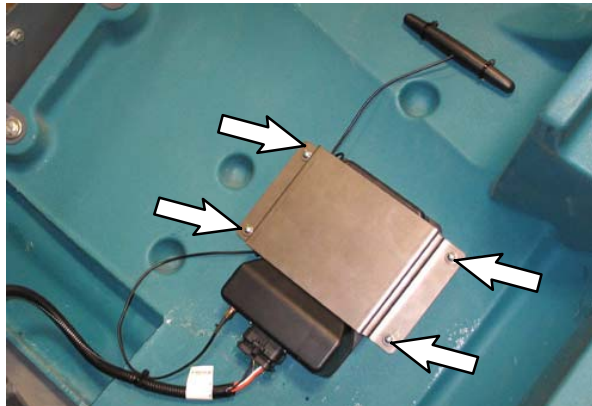

FIG. 17
17. Use four pan screws (2) and four flat washers (3) to install the telemetry module guard (8) over the telemetry module (1) and bundled antenna (7) cable. (Fig. 17)